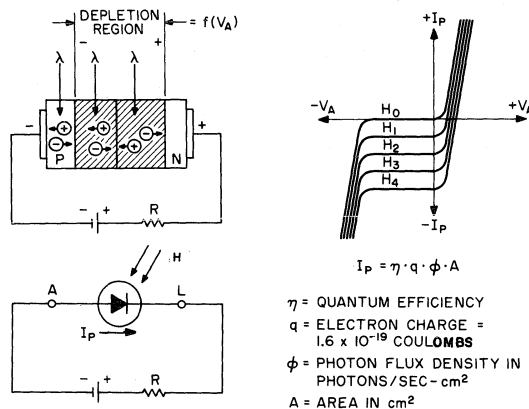

Fig. 2 - Light sensitive reverse biased pn junction photodiode.
**a. Photodiode** — Basic to understanding silicon photosensitive devices is the reverse biased pn junction, photodiode. When light of the proper wavelength is directed toward the junction, hole electron pairs are created and swept across the junction by the field developed across the depletion region. The result is a current flow, photocurrent, in the external circuit, proportional to the effective irradiance on the device. It behaves basically as constant current generator up to its avalanche voltage, shown in Figure 2. It has a low temperature coefficient and the response times are in the submicrosecond range. Spectral response and speed can be tailored by geometry and doping of the junction. Increasing the junction area increases the sensitivity (photocurrent per unit irradiance) of the photodiode by collecting more photons, but also increases junction capacitance, which can increase the response time.